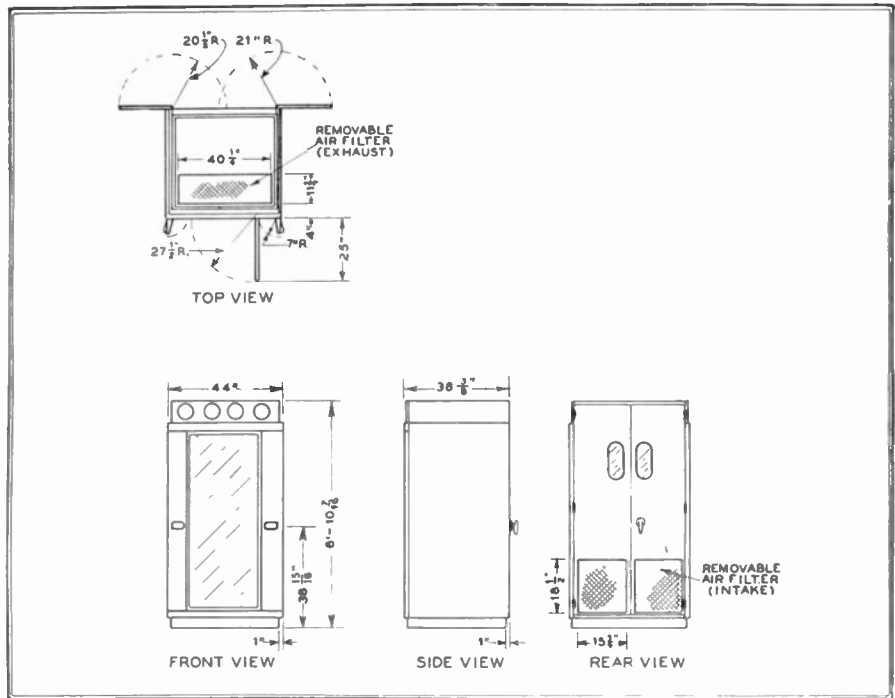

FIG. 4. OVERALL DIMENSIONS AND DOOR SWINGS OF THE 1-KW. TRANSMITTER
**Housing and Power Requirements** ★ Each of the new transmitters is complete with its own self-contained power supplies. Figs. 4 to 8 show plan views of each of the equipments and the necessary space for housing the units.